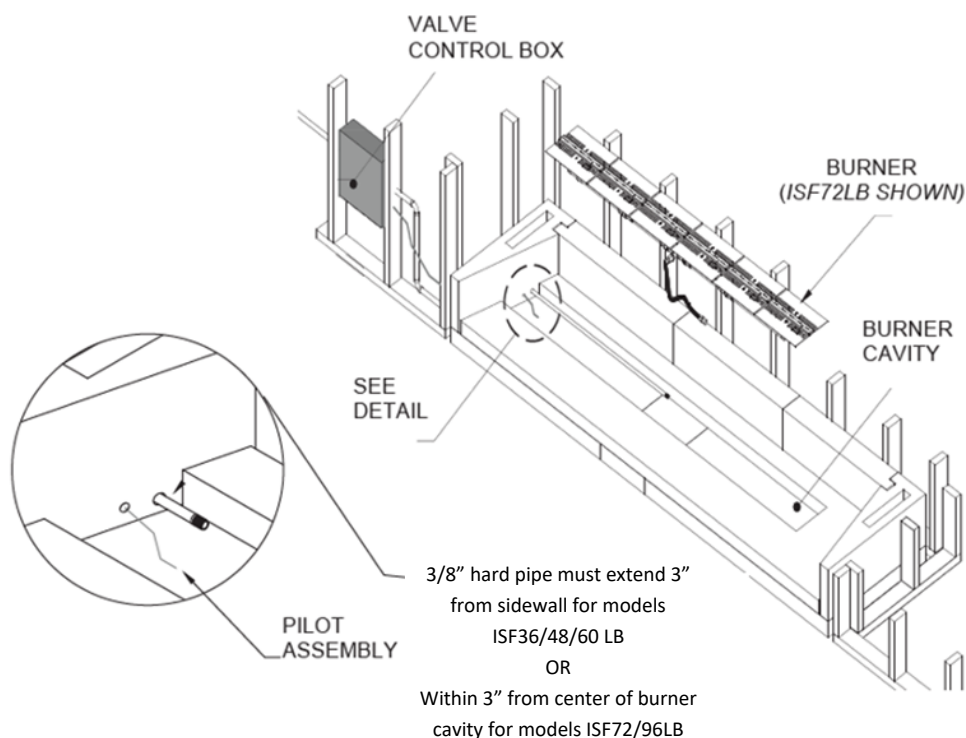

FIGURE 46
- 4) The 48", 60", and 72" Maximus Linear Open Front fireplaces (82L48, 82L60, & 82L72) will require the ISF36/48/60LB (N/P) (respectively): Gas supply piping for these models shall terminate not less than 3" from sidewall. **(Figure 46)**
- 5) The 96" and 120" Maximus Linear Open Front fireplaces (82L96 & 82L120) will require the ISF72/96LB (N/P) (respectively): Gas supply stub piping for these models shall terminate within 3" from center of the cavity. **(Figure 46)**